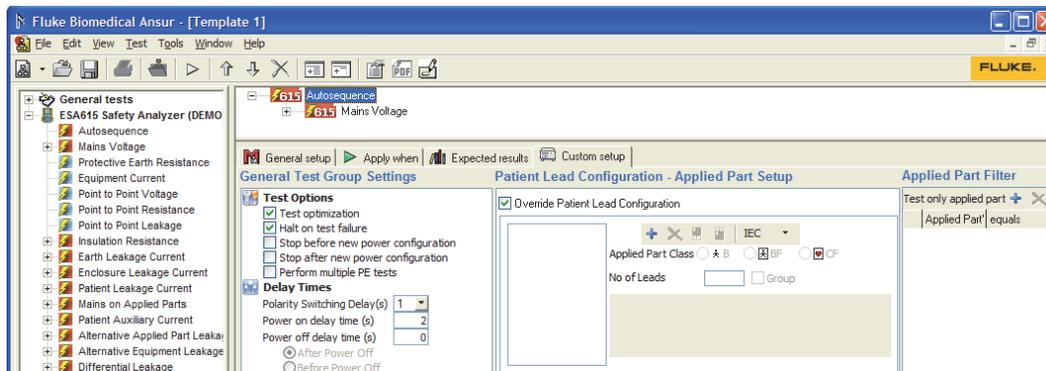

Figure 6-16. Custom Setup Window
3. Click the **Custom Setup** tab to show the window in Figure 6-16.